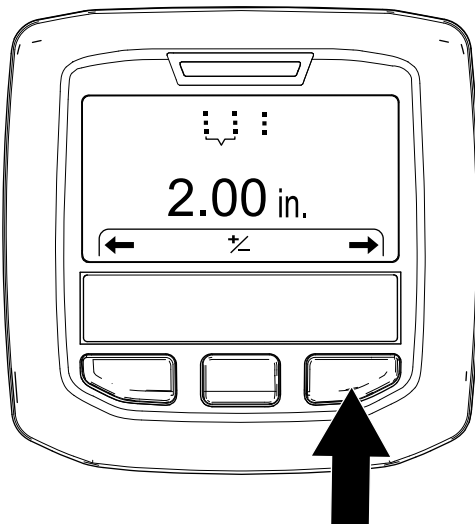

Figure 48
4. Press the right InfoCenter button to display the Setting the Hole Spacing screen (Figure 48).